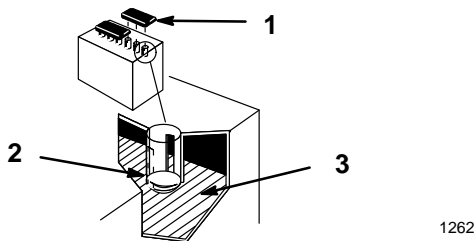

Figure 39
2. Open covers to see into the cells. The electrolyte must be up to the lower part of the tube (Fig. 39). Do not allow the electrolyte to get below the plates. (Fig. 39).
2. Lift off the filler caps (Fig. 39).
3. Slowly pour distilled water into each battery cell until the level is up to the lower part of the tube (Fig. 39).